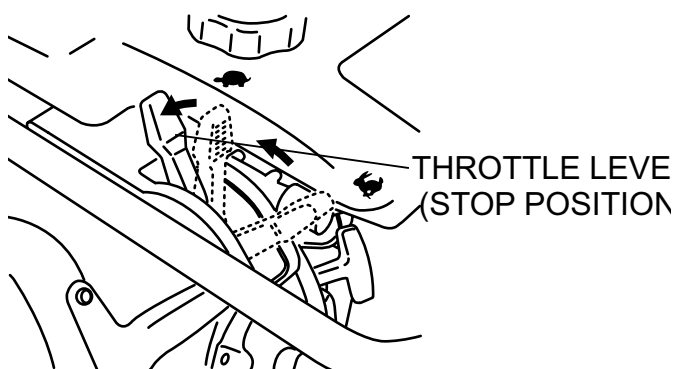

Figure 11. Throttle Lever (Stop Position)
1. Move throttle lever quickly from the **START** to **IDLE** position (Figure 6) and run the engine for three minutes at low speed. After the engine **cools**, move the throttle lever to the **STOP** position (Figure 11). The engine will stop and the fuel cock is automatically closed.